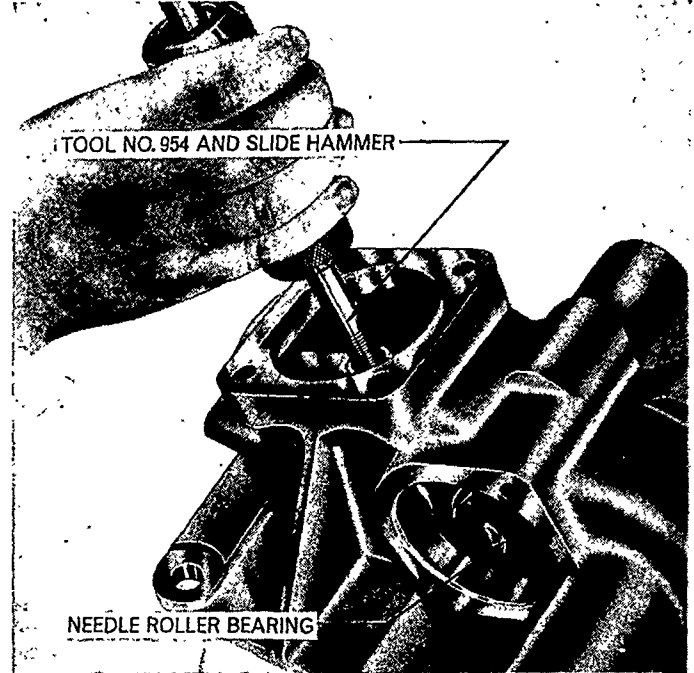

Figure 37
7. Examine the needle roller bearing in the steering gear housing and the adaptor for wear or damage. Bearing rollers should be smooth, highly polished and should turn freely. If necessary to replace use Tool 954 to remove. It will be necessary to assemble the tool inside the housing to remove the lower bearing as the shaft aperture is not of sufficient size for the puller to pass through, Figures 37 and 38.